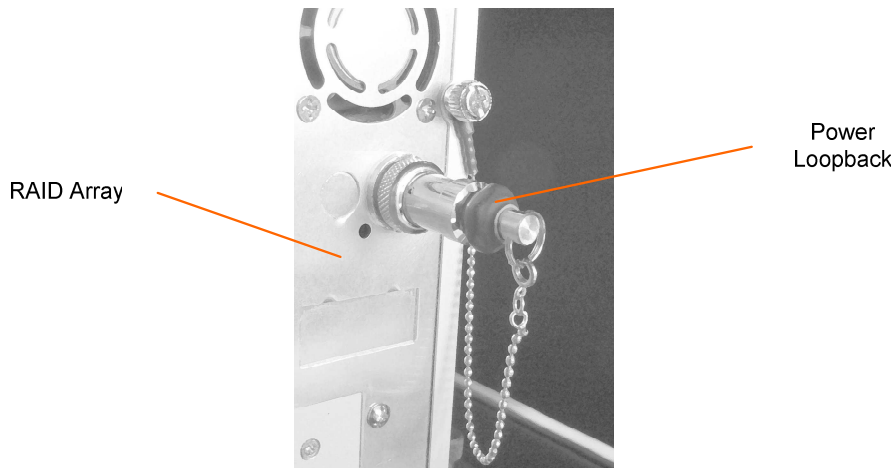

Figure 1.26: Power loopback in “5V, 12V DC IN” connector.
- Place power loopback to “5V, 12V DC IN” connector of RAID-array. (Figure 1.26)